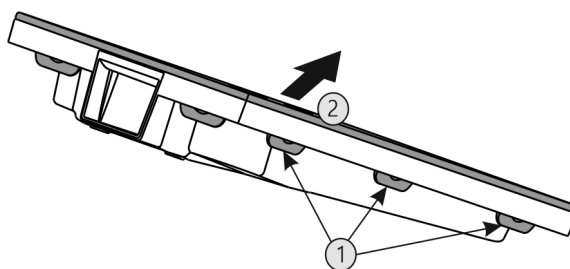

Fig. 32
- Press all lugs Fig. 32 (1) one after another and remove the cover Fig. 32 (2).